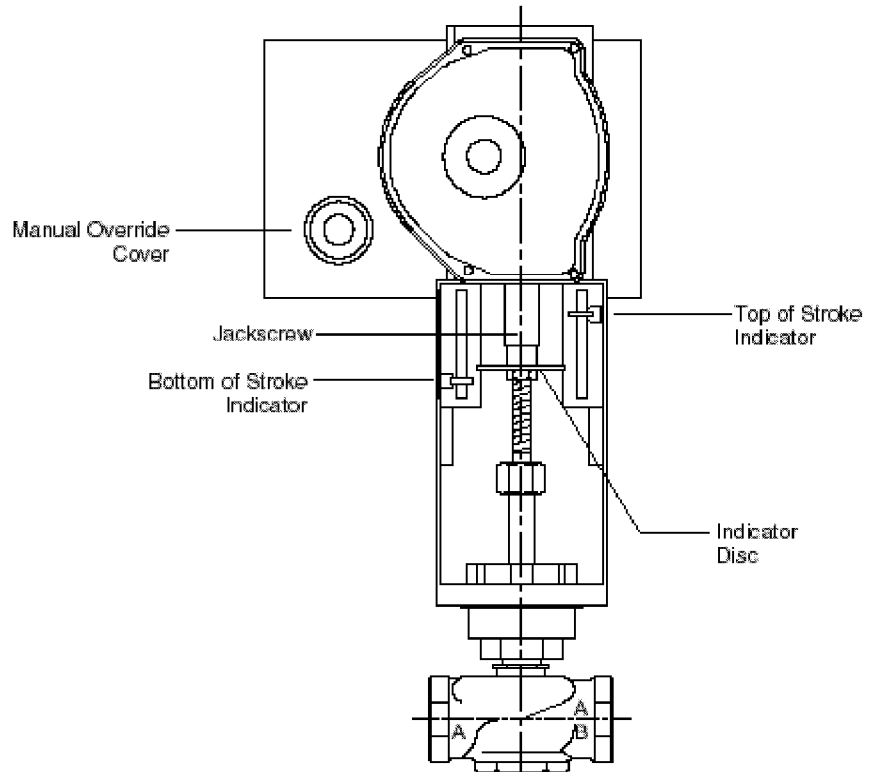

Figure-7 MS-79X3 and VB-73X3 Valve Assembly.
13. Remove the manual override cover on the actuator. Refer to Figure-7.
14. Place a 10 mm socket over the manual override pinion and rotate it clockwise against the spring. This should drive the jackscrew down closer to top of the valve stem extension. When jackscrew is 1/16" to 1/8" (2 to 3 mm) above the valve stem manually lock the override pinion into place with a 10 mm open-end wrench braced against the appropriate notch on the actuator. Refer to Figure-7.
12. Remove the manual override cover on the actuator. Refer to Figure-7.
13. Place a 10 mm socket over the manual override pinion and rotate it clockwise against the spring. This should drive the jackscrew down closer to top of the valve stem. When the valve stem and the stem extension are close enough to meet manually lock the override pinion into place with a 10 mm open-end wrench braced against the appropriate notch on the actuator. Refer to Figure-7.
17. Remove the manual override cover on the actuator. Refer to Figure-7.
18. Place a 10 mm socket wrench over the manual override pinion and rotate it clockwise against the spring. This should drive the jackscrew down closer to top of the valve stem extension. When jackscrew is 1/16" to 1/8" (2 to 3 mm) above the valve stem manually lock the override pinion into place with a 10 mm open-end wrench braced against the appropriate notch on the actuator. Refer to Figure-7.
9. Remove the manual override cover on the actuator. Refer to Figure-7.
10. Place a 10 mm socket over the manual override pinion and rotate it counterclockwise against the spring. This should drive the jackscrew up into the actuator. When approximately 1/2" (13 mm) of the jackscrew is showing manually lock the override pinion into place with a 10 mm open-end wrench braced against the appropriate notch on the actuator. Refer to Figure-7.
6. Remove the manual override cover on the actuator. Refer to Figure-7.
7. Place a 10 mm socket over the manual override pinion and rotate it counterclockwise against the spring. This should drive the jackscrew up into the actuator. When approximately 1/2" (13 mm) of the jackscrew is showing manually lock the override pinion into place with a 10 mm open-end wrench braced against the appropriate notch on the actuator. Refer to Figure-7.